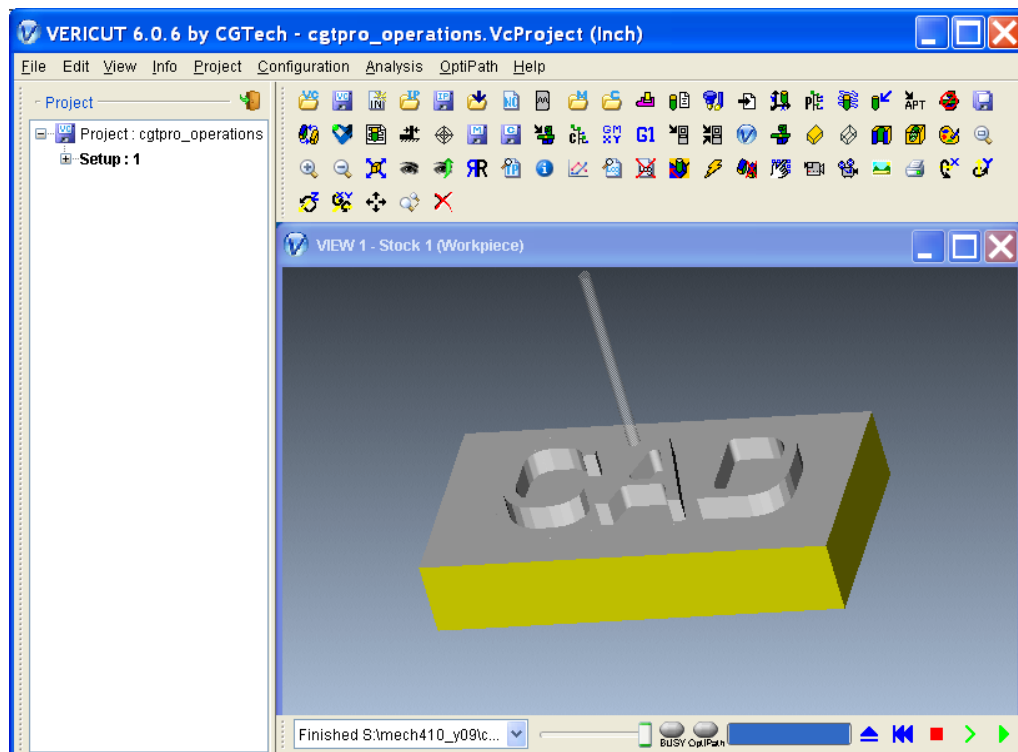

Figure 1.47
8. View tool path. Menu Manager → NC Sequence → Play path → NC Check. The cutting path is shown in Figure 1.47.